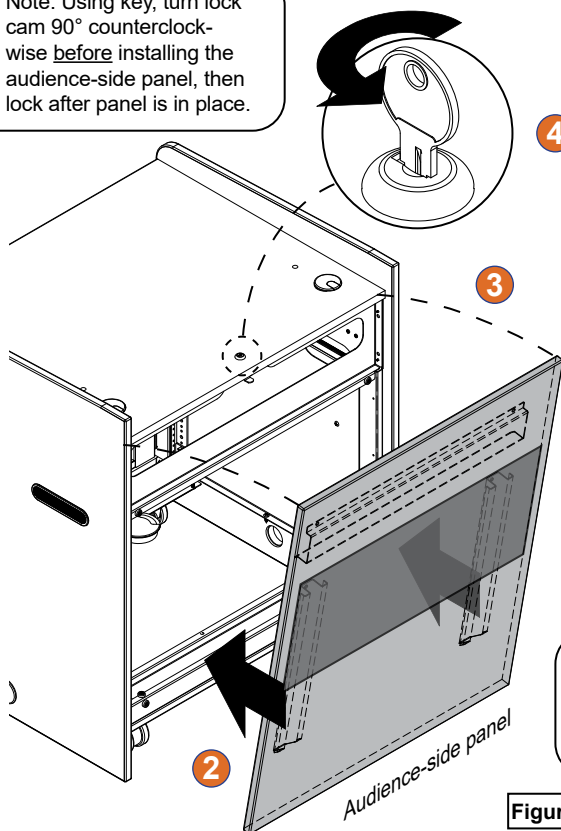

**Figure 4.2**
2. Locate the (6) starter holes in the back of the audience-side panel. **Figure 4.2.**